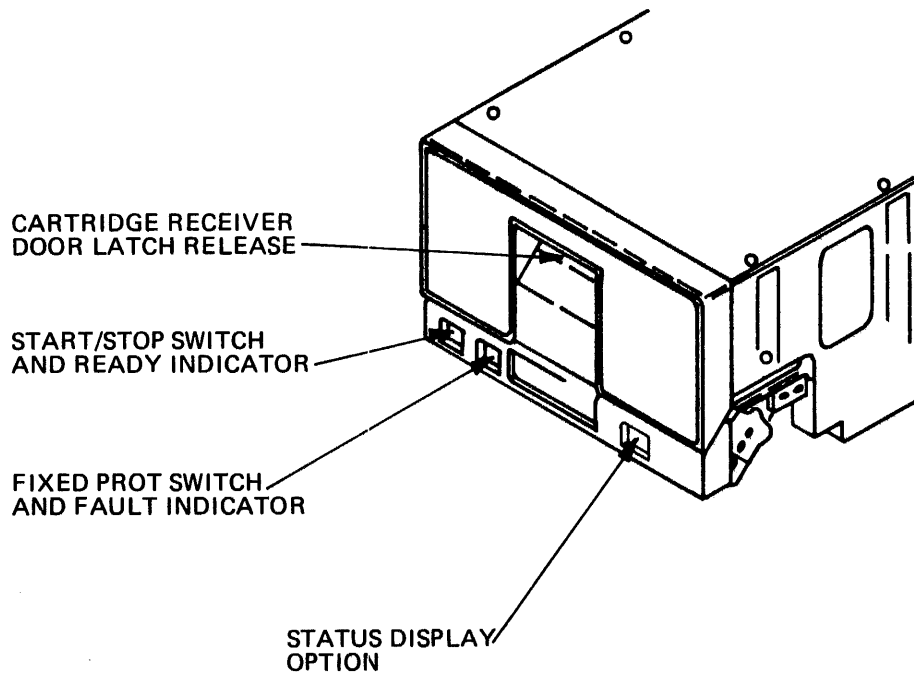

Figure H-6 Operator Controls and Indicators
5. If, while the drive is operating, the cartridge receiver door latch is inadvertently released (Figure H-6) causing the spindle to begin slowing down (READY indicator blinks), place the START/STOP switch in the STOP position and allow the spindle to come to a complete stop. Remove the cartridge and inspect the door mechanism for any damage. In the absence of damage, reinsert the cartridge and restart the drive in a normal manner.
Figure H-6 shows the controls and indicators of the CDD50.